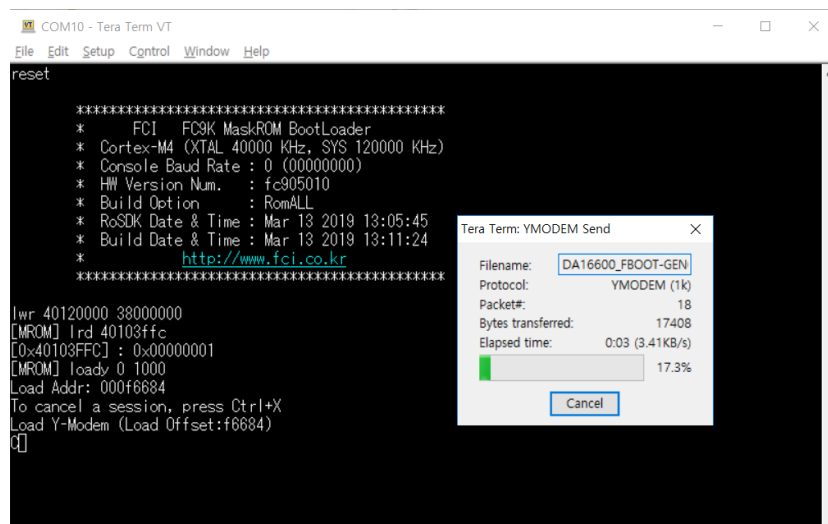

Figure 25: Download bootloader
2. When opening the MACRO file, the DA16600 will reset, and the BOOT firmware image is downloaded (see Figure 25).